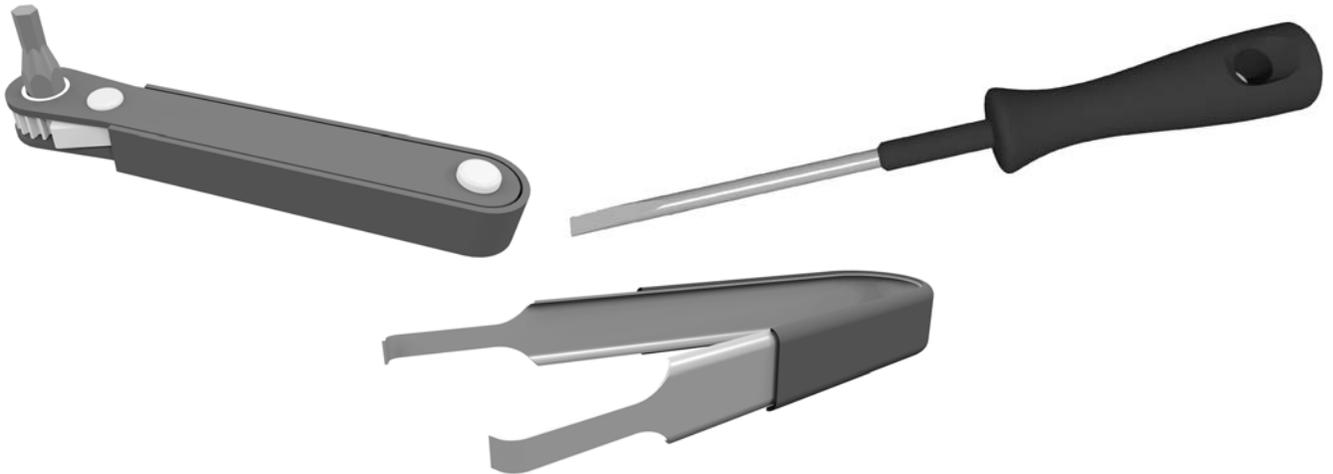

Figure 1-3: Ratchet wrench, long-shank screwdriver, and chip puller
- Allen wrench, ratchet type, with 5mm bit (such as the Great Neck 51063, Neiko Tools 03044A, or the Husky Tools 66604). See *Figure 1-3*, below.
- 1/8" flat screwdriver with a long shank. See *Figure 1-3*, below.